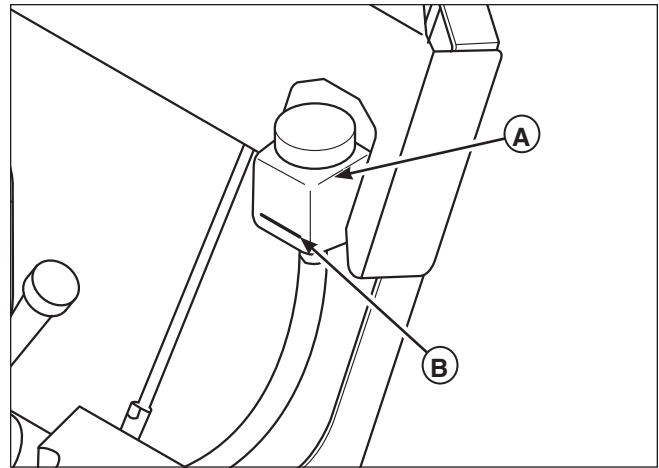

Figure 12. Transmission Oil Reservoir (LH Shown)
1. Check the oil level when the unit is cold. Locate the transmission oil reservoirs (A, Figure 12) located on the handle bar assembly. The oil should be up to the "FULL COLD" mark (B). If the oil is below this level, proceed to step 2.
3. Add oil up to the "FULL COLD" mark (B).